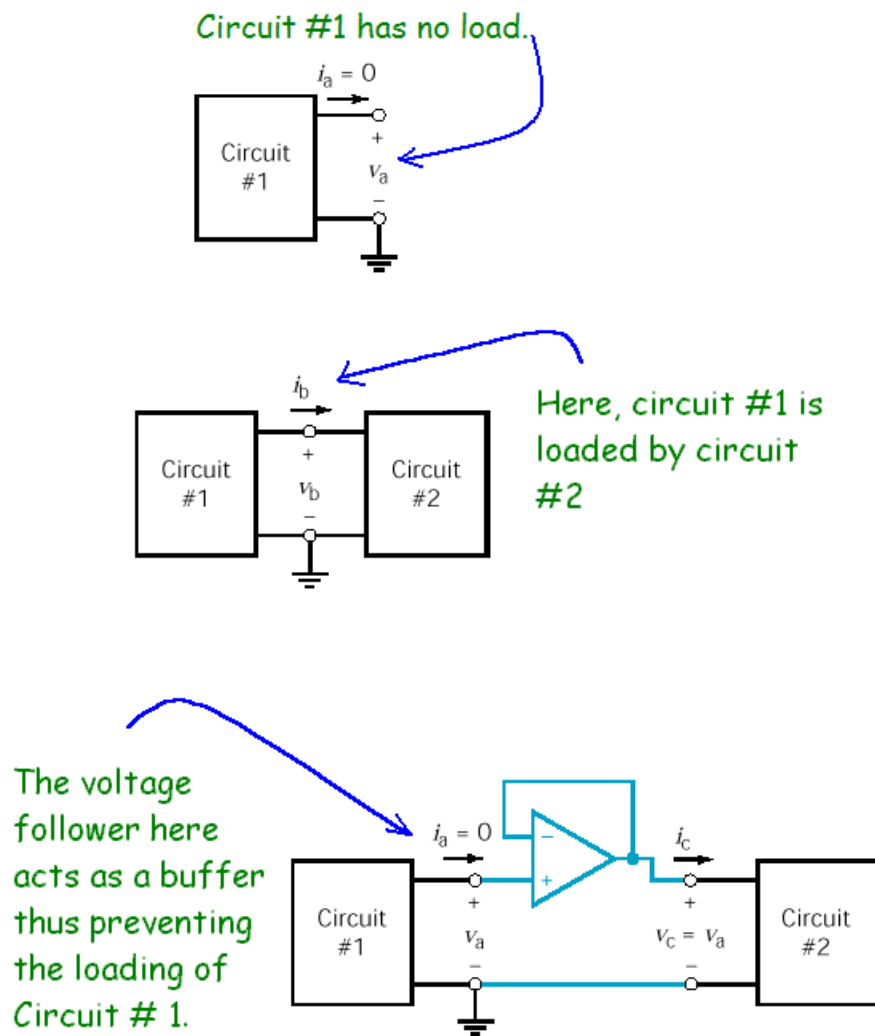

Figure 6. An application of a voltage followers as a buffer.
For an op-amp with very high gain (such as the LM741), Equation (7) reduces to $v_o = v_{in}$. Since the op-amp input resistance is very high, the voltage follower can then be used as a *buffer* that connects two circuits together (refer to Figure 6). Here, the circuit on the left of the buffer sees a high resistance load and therefore its operation is not affected. Without the buffer, the operation of the first circuit would be altered by the current that is drained by the second (loading) circuit; when the buffer is used, the op-amp will supply the current.
The linear range of operation of the voltage follower is guaranteed as long as: (1) $-v_{sat} < v_{in} < +v_{sat}$ and (2) the voltage follower load resistance (if present) satisfies $R_L > |v_o/i_{sat}|$ or (since $v_o = v_{in}$) $R_L > |v_{in}/i_{sat}|$ (an $R_L \geq 1k\Omega$ should satisfy this condition). The input/output relation for a practical voltage follower is depicted in Figure 6 (recall that the LM741 has $|v_{sat}| \cong |V_s| - 1$).